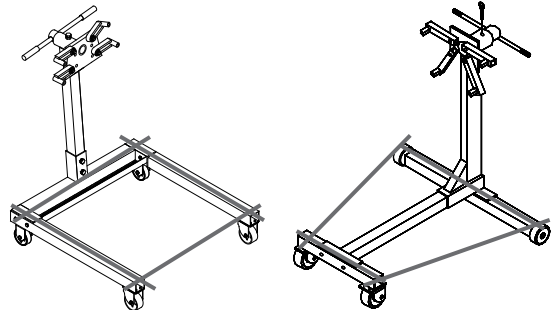

Figure 5 - Peripheral Loading Limit of Engine Stand
**ALWAYS** verify that the product and the application are compatible. **NEVER** load the engine stand with an engine that extends beyond an imaginary line drawn connecting the centerlines of the front and rear wheel/ caster axles as show in Fig 5.